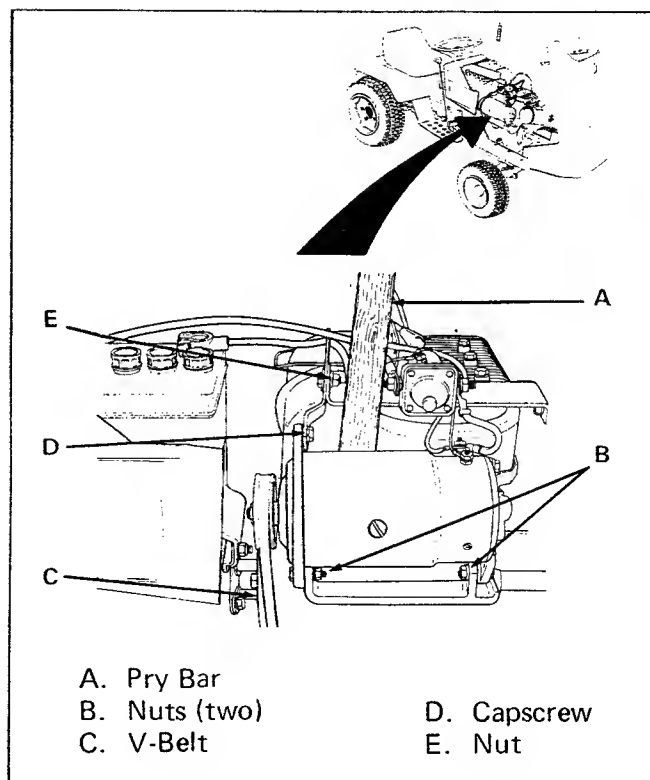

Figure 29. Starter-Generator Belt Adjustment
2. Loosen, but do not remove, the two nuts (item B), the capscrew (item D) and the nut (item E) shown in figure 29.